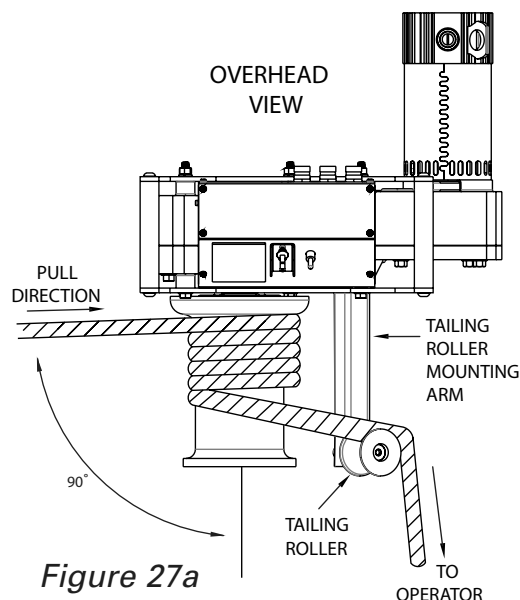

Figure 27a
As shown in the overhead view, Figure 27a, the pulling rope must approach the capstan at a 90° angle. This will help avoid rope overlap.
Make several wraps of the pulling rope around the capstan, beginning at the housing end of the capstan. See Figure 27a.
Next, guide the pulling rope around the tailing roller as shown in Figure 27a. This will enable the operator to stand at a 90° angle to the cable puller and out of the direct line of tight pulling rope.
ALWAYS use tailing roller to guide rope so that operator stands at 90° angle to the cable puller and out of the direct line of tight pulling rope. See Figure 27a.
ALWAYS wrap rope beginning at housing end of capstan as shown in Figure 27a.
To help avoid rope overlap, rope must approach capstan at a 90° angle. See Figure 27a.
4. Hold the tailing end of the pulling rope as it comes off the tailing roller (see Figure 27a) and pull slightly. Turn the cable puller circuit breaker ON.